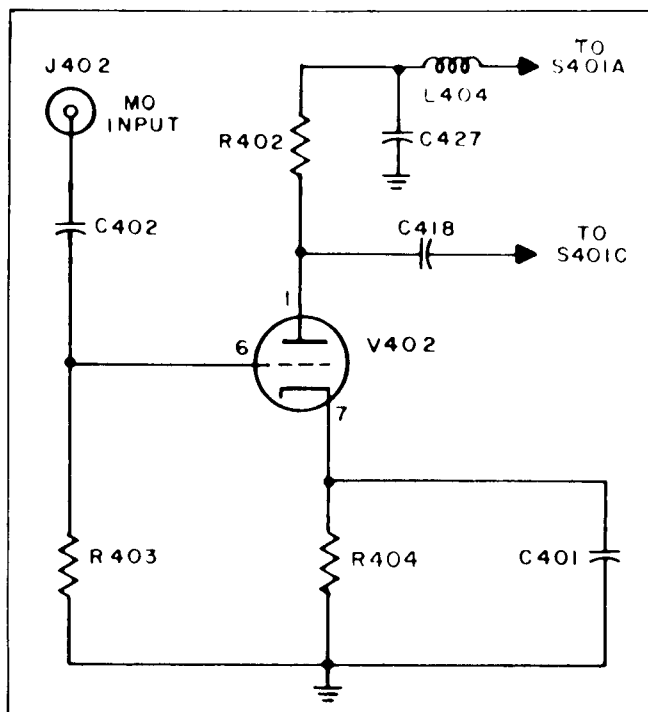

Figure 4-4. Buffer Stage, Simplified Schematic Diagram
(4) BUFFER. - Tube V402 is provided as a buffer at the output of the master oscillator circuit for additional isolation. (See figure 4-4.) Tube V402 is connected as a broadband amplifier. Coil L404 is used as a B+ filter with capacitor C427 as a B+ bypass. The output of V302B is applied through C402 to the grid. Cathode bias is developed by R406 and C401. The output from the plate is coupled through capacitor C418 to the input V403 through S401C when the switch is in the MO position
(5) CRYSTAL OSCILLATOR-AMPLIFIER.